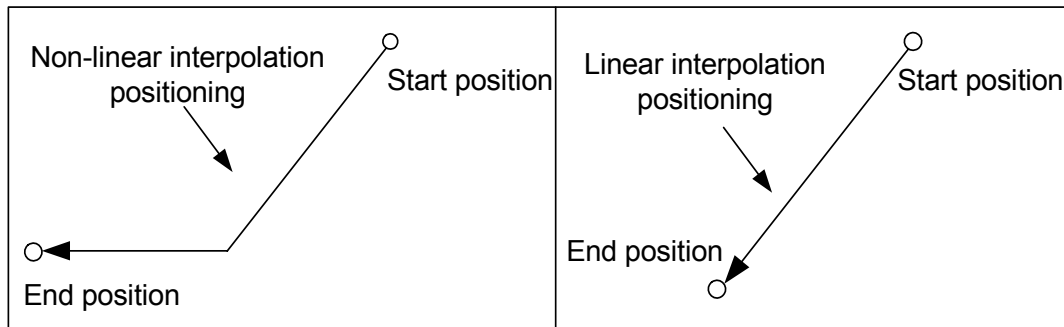

Fig. 3-2-1-1
**Function:** G00 command. The tool moves to the position in the workpiece system specified with the absolute or an incremental command at a rapid traverse speed. The bit parameter **NO:14#0** sets to select one of the following two tool paths (Fig. 3-2-1-1).